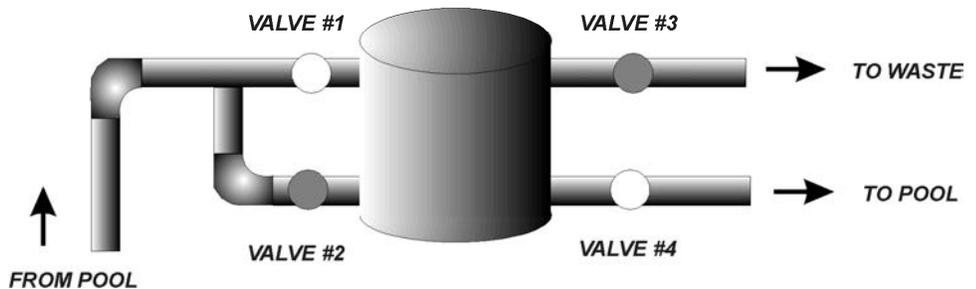

Figure 27 - Single Filter Backwash
As shown in Figure 27, backwashing of a single filter is controlled with four valves that are connected to the Normally Open (NO) and Normally Closed (NC) poles of Filter Relay 1.